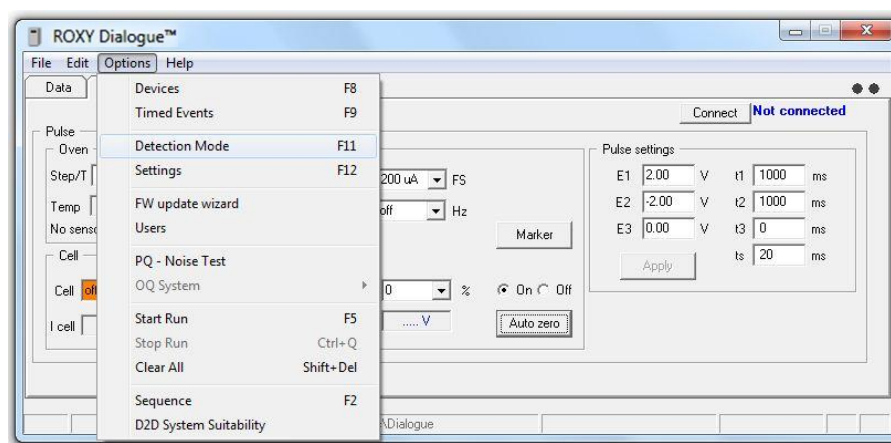

Fig. 18. Pull down menu: Options \rightarrow Detection Mode.
3. Select Pulse mode (Fig.18) and click OK.